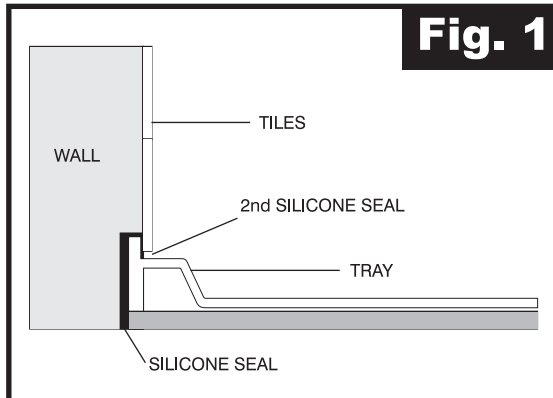

Fig. 1
2. Ensure that the area where the shower tray is to be installed is level and free of any debris. Check the corner of the walls are at 90 degrees allowing the tray to fit square. If an Upstand tray is to be fitted recess the wall sufficiently to enable the tiles to sit over the upstand (see fig 1). Please make sure that the tiles are not adhered to the upstand directly.